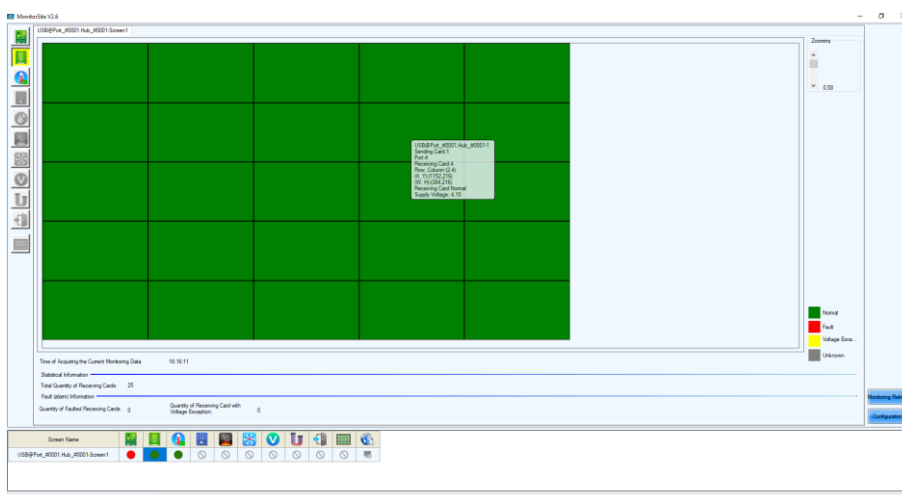

Figure 92: Start Screen Monitoring
- Step 1) The Monitoring interface will open. By default, the Monitoring view for the Receiving cards is opened (see Figure 92).